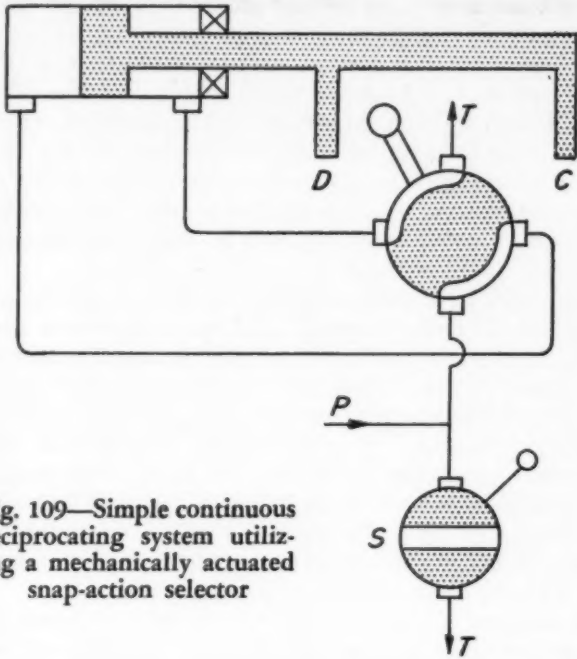

Fig. 109—Simple continuous reciprocating system utilizing a mechanically actuated snap-action selector
plications, such as machine tools, where the stroke of a cylinder may have to be varied. This can be done easily by moving the stop or cam operating the valve. Fig. 109 illustrates a simple continuous system of this type where reciprocating motion of a machine slide is obtained by a mechanically operated selector which could have the type of snap action shown in Fig. 108. Stop C reverses the selector at the left-hand end of the stroke, stop D at the right-hand end. The machine is started and stopped by cock S, which unloads the pump.
1. Selectors operated mechanically by the cylinders, (cylinder *A* operates selector *b*, etc.). Selectors must stay put until reversed when the cylinder reverses and should preferably have toggle action. An elementary case is shown in *Fig. 109*.